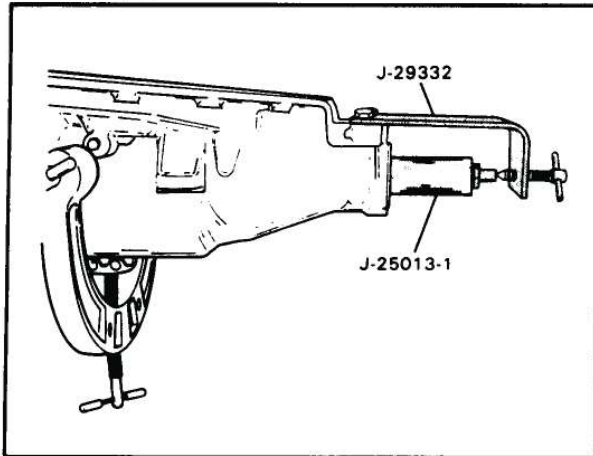

Figure 106
3. Install dial indicator onto the transmission as shown in Figure 106.
4. Turn the adjusting screw on the holding fixture until white/scribed line begins to dissappear, as shown in Figure 106.